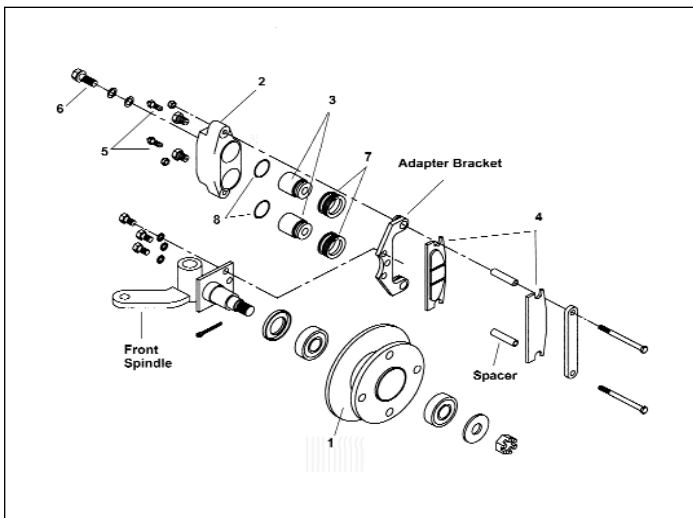

Figure 14 - Disc Brake Components
Hydraulic Disk Brake (see Figure 14) includes the following components:
2. Assemble caliper assembly as illustrated in Figure 14.